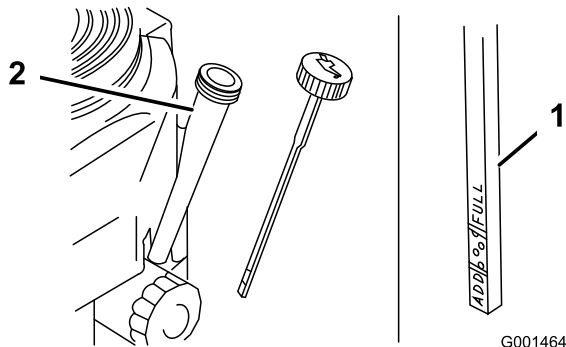

Figure 31
4. Clean around the oil dipstick (Figure 31) so that dirt cannot fall into the filler hole and damage the engine.
5. Unscrew the oil dipstick and wipe the end clean (Figure 31).
6. Slide the oil dipstick fully into the filler tube, but do not thread onto tube (Figure 31).
9. Slowly pour approximately 80% of the specified oil into the filler tube (Figure 31).